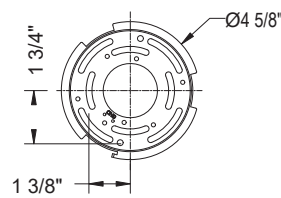

Fig. 4 Wiring
- Connect the driver's output wires, fixture's wires and 3 CCT switch's wires together using wire connectors (B) as shown in Fig. 4.